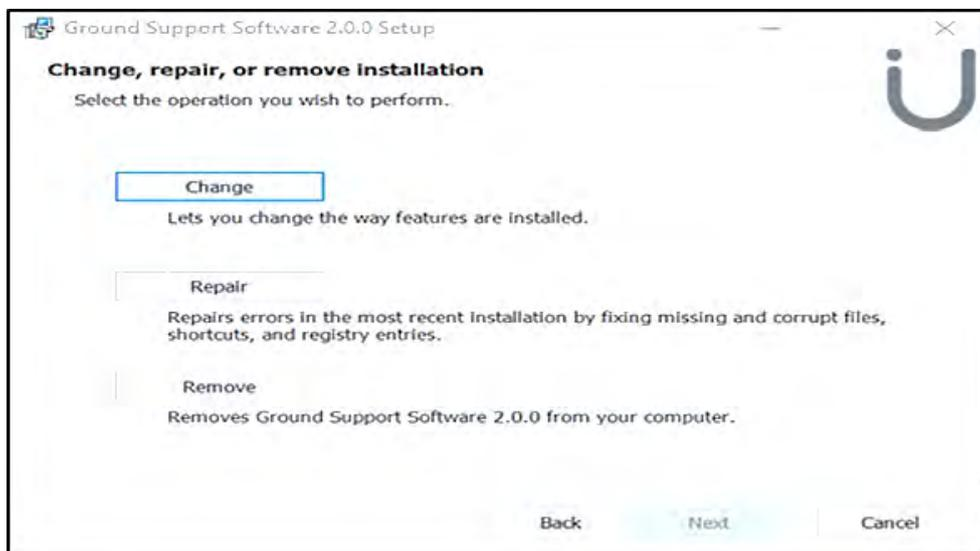

Figure 2-13 Change
(6) Select change in the Ground Support Software 2.0.0 Setup window. (Ref Fig 2-13)